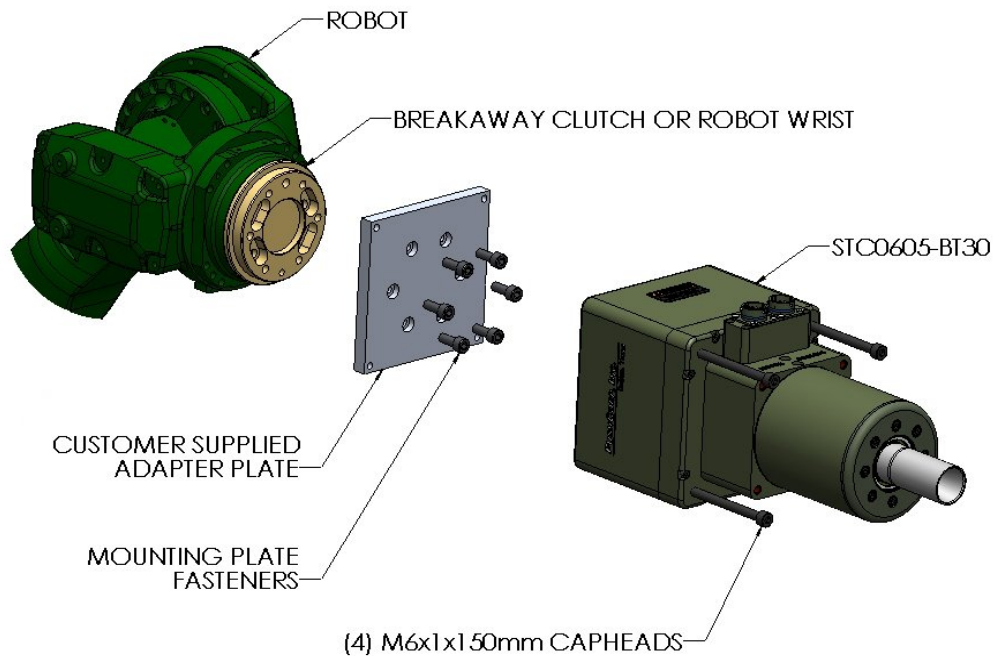

Figure 3. Spindle Motor Direct Mounting
To mount the motor, first attach the customer supplied Mounting Plate to the Robot Mounting Flange or to the Breakaway Clutch, per the manufacturer’s specifications. Once the Mounting Plate is secured, place the motor against the Mounting Plate and install (4) four, M6x1, Socket Head Cap Screws (length is dependent on motor SMxxxx = 25mm, STCxxxx-BT30 = 145mm). (See Figure 3.) Tighten the fasteners to the torque specified in Section 4.0.